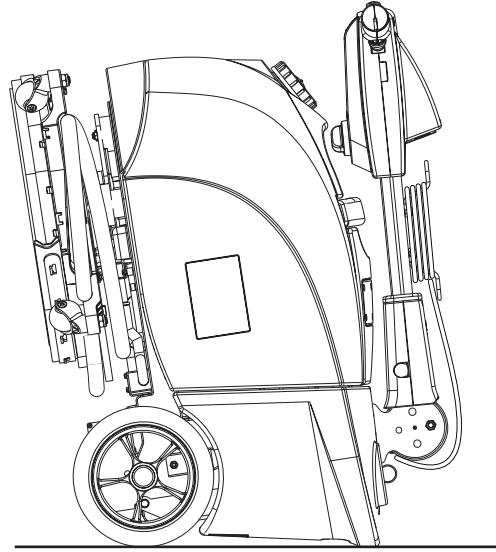

Figure 3
2. Open the cover (4) and disconnect the battery connector (7).
4. To safeguard the brush or squeegee blades, turn the handlebar (1) forward and park the machine as shown in figure 3.